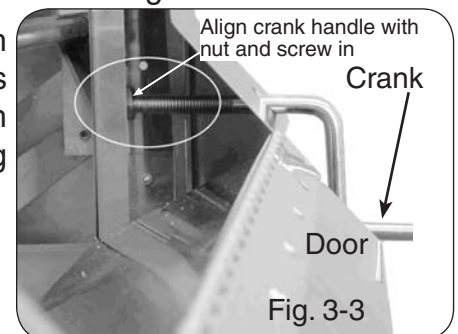

Fig. 3-3
1. Locate the crank handle (Fig. 3-3) packed inside the grill enclosure.
2. Open the door in the front panel as shown in Fig. 3-3. Insert the threaded end into the crank handle through the hole on the right of the grill face and into the nut on the frame as shown.